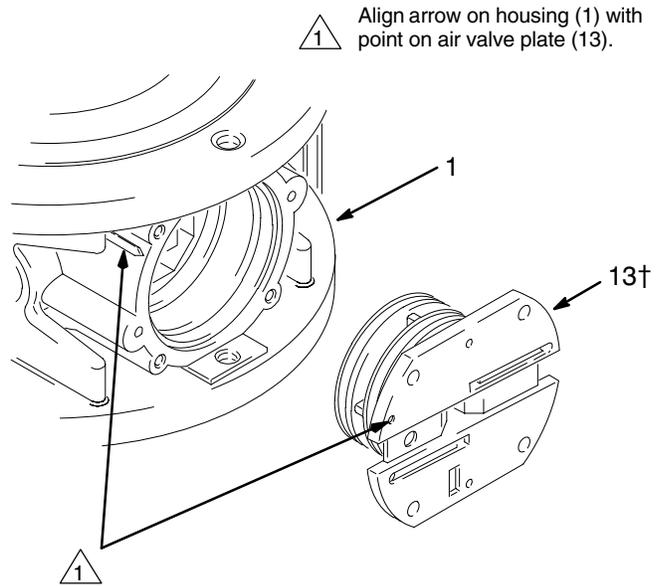
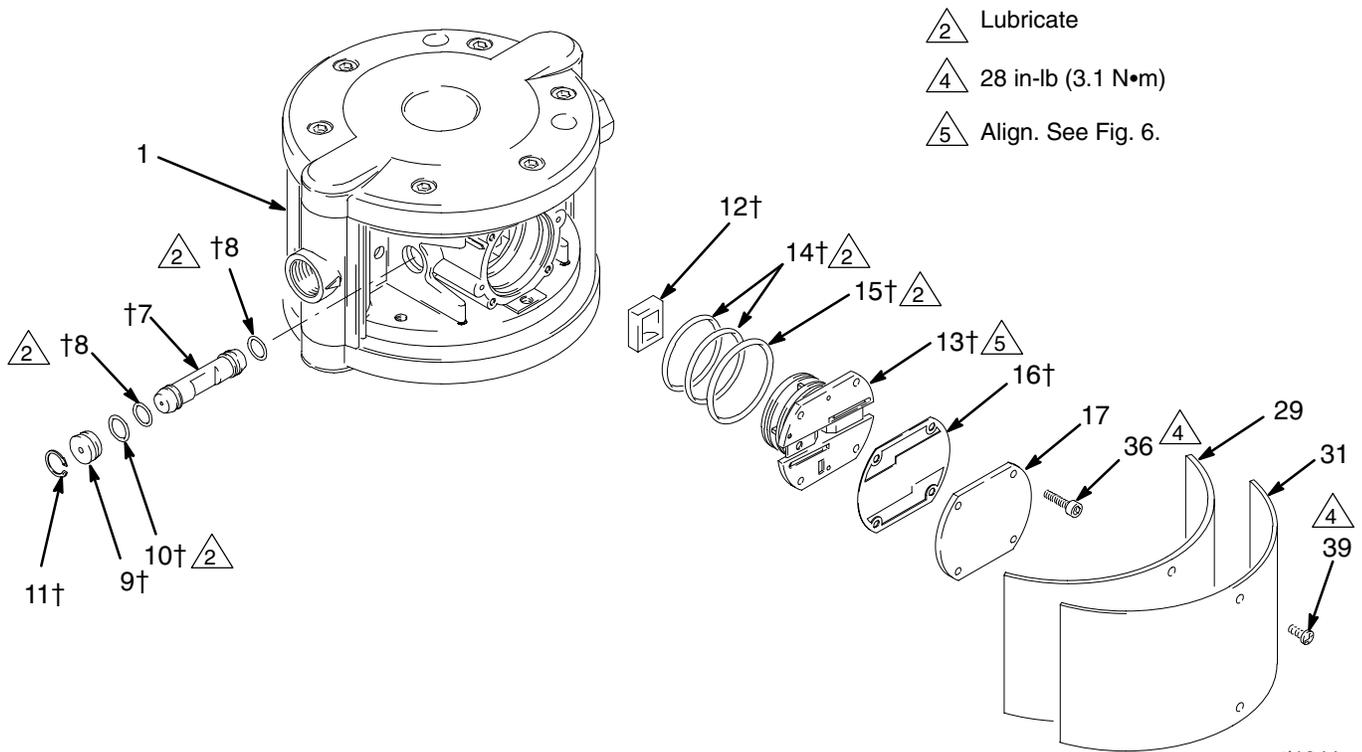

Fig. 6
Fig. 7
1. Remove the side cover (31) and felt dampener (29).
2. Remove the four screws (36), air valve cover (17), and gasket (16). See Fig. 7.
3. See Fig. 6. Note the orientation of the air valve plate (13). Pull the plate out of the center housing (1). Remove the three o-rings (14, 15) from the plate. See Fig. 7.
4. Remove the air valve cup (12) from the center housing (1).
5. Remove the retaining ring (11) and plug (9), and slide the carriage (7) from the center housing (1). Remove the o-rings (8, 10) from the carriage and the plug.
1. Lubricate the o-rings (8†) and install them on the carriage (7†). Slide the carriage into the center housing (1) so the notch faces out, as shown in Fig. 7.
4. Lubricate the large o-ring (15†) and the two small o-rings (14†) and install them on the air valve plate (13†). Align the point on the plate with the arrow on the center housing (1) as shown in Fig. 6. Install the plate in the housing.
6. Reinstall the air valve cover (17) and screws (36). Torque the screws to 28 in-lb (3.1 N•m).
8. Reinstall the felt dampener (29) and side cover (31). See page 14.